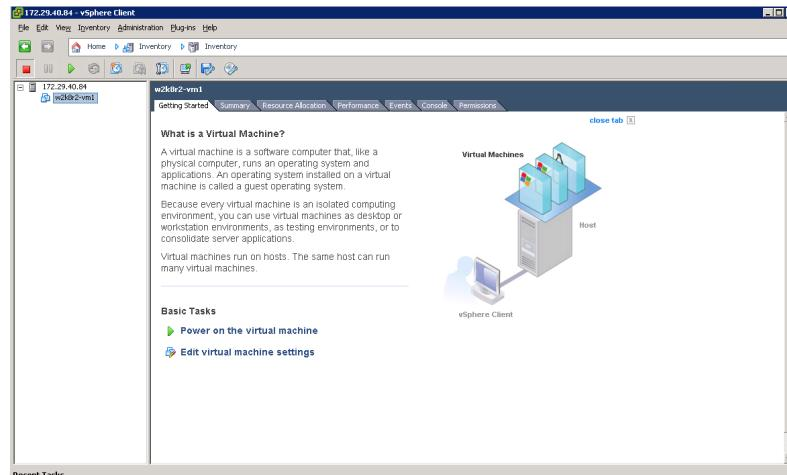

Figure 5-20. Selecting the Virtual Machine
3. Select the virtual machine in the left pane (Figure 5-20).